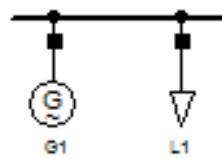

Figure 30.1.4: Generator "G1" (Built-In Model)
- The synchronous machine that is used in the Composite Model is called a **Built-In Model**, see Figure 30.1.4. This means that such elements are pre-configured elements which do not need a specific model definition. Any kind of element which is able to provide input or output variables, e.g. converters, busbars, etc, can be inserted into the slots.